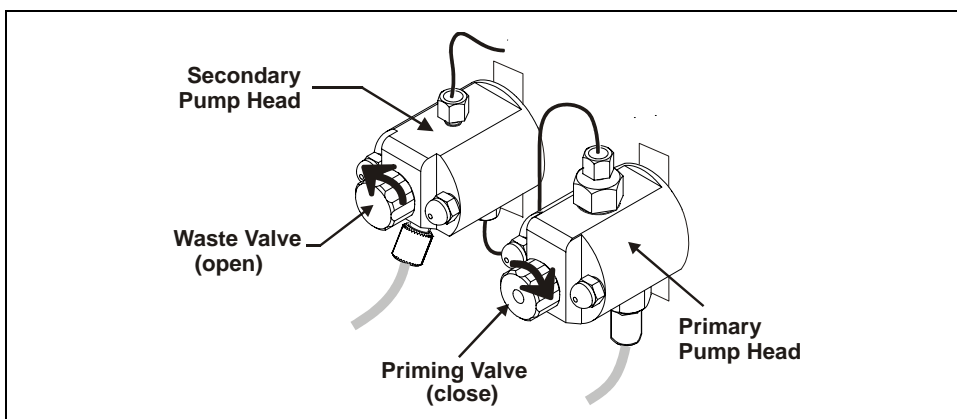

Figure 29. Priming the Pump
1. Check that the priming valve on the primary pump head is closed (see Figure 29).
2. Open the waste valve on the secondary pump head by turning the knob one-quarter to one-half turn counterclockwise (see Figure 29). Opening the valve directs the eluent flow path to waste and eliminates backpressure.